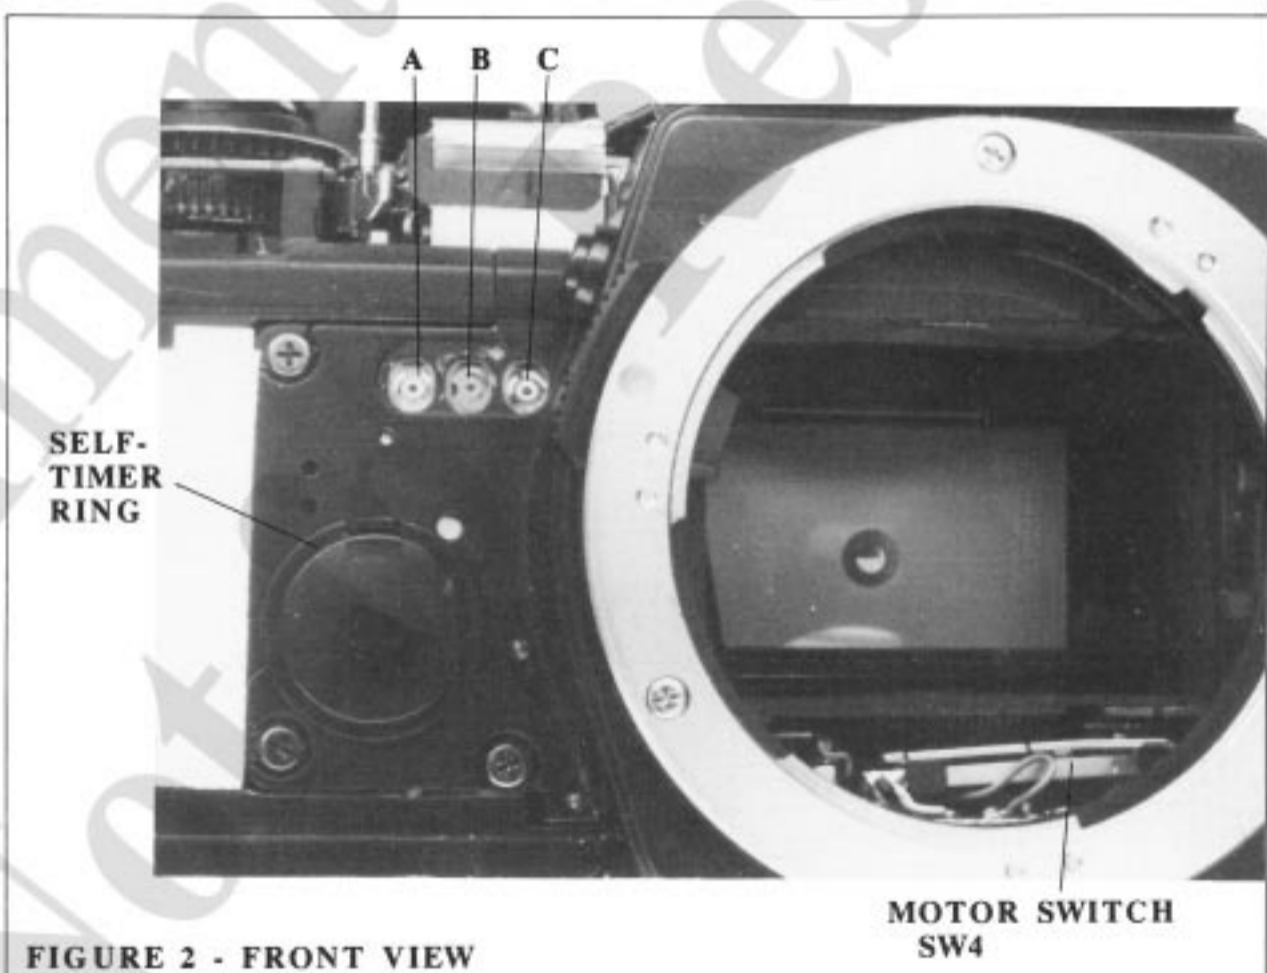

FIGURE 2 - FRONT VIEW
- Fig. 2 -- front view leather and front mirror-box light trap removed
Set manual mode, 1/1000 second. Adjust for an accurate 1/1000 with A, Fig. 2 (ccw for a faster speed, cw for a slower speed).
Set auto mode, ISO 100, f/5.6, EV11. Adjust the exposure with B, Fig. 2 (ccw for a longer exposure, cw for a shorter exposure). Then check the exposure accuracy in the program mode (no separate adjustment).
Set auto mode, ISO 100, f/5.6, EV11. Adjust C, Fig. 2, until the LCD reads 1/60.